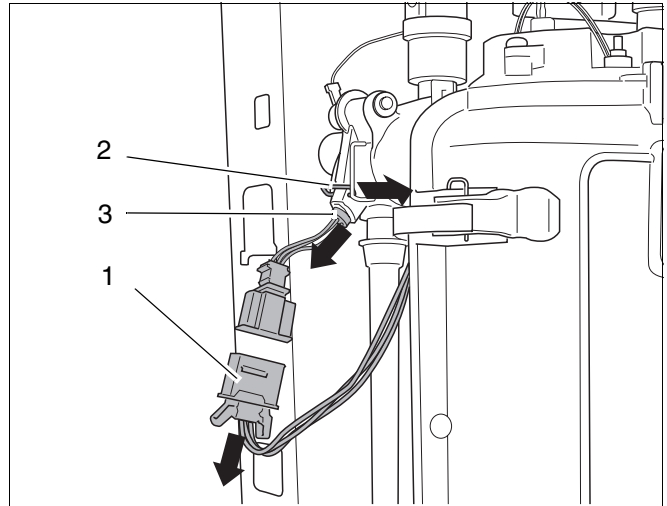

fig. 91 Replace bi-sensor
- Disconnect the plug of the bi-sensor (→ fig. 91, item 1).
- Remove spring clip (→ fig. 91, item 2)
- Remove the bi-sensor (→ fig. 91, item 3).